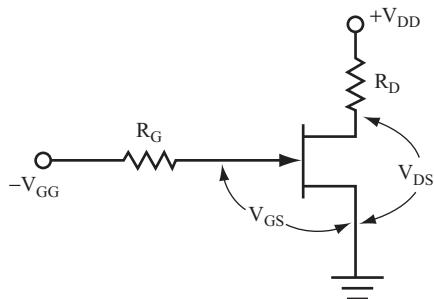

FIGURE 3.29
Figure 3.29 shows a typical biasing circuit for the N-channel JFET. For a P-channel JFET, you must reverse the polarity of the bias supplies.
- 31** When the gate to source voltage is at 0 volts ($V_{GS} = 0$) for the JFET (refer to Figure 3.29), the drain current is at its maximum (or saturation) value. This means that the N-channel resistance is at its lowest possible value, in the range of 5 to 200 ohms. If R_D is significantly greater than this, the N-channel resistance, r_{DS} , is assumed to be negligible.